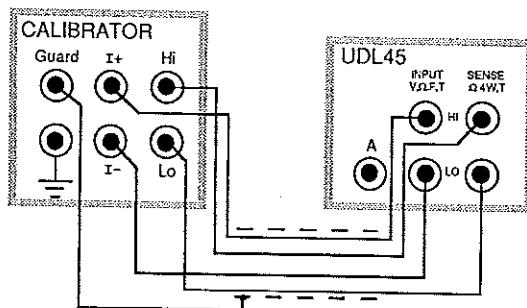

Figure 6-9. Calibrator-to-UDL45 Connections
- (5) Calibrate 4-terminal resistance
- c. Connect the calibrator to the UDL45 using a shielded cable as shown in Figure 6-9.
- h. To continue the calibration procedure, go to step (6)c. To conclude the calibration procedure at this point, press FUNCTION ▼ repeatedly until the CAL date is displayed (Table 6-4, step 23) and go to step (10)c.